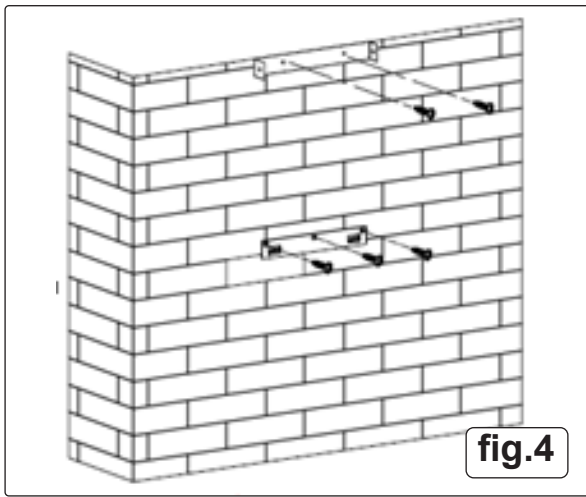

fig.4
- Drill 5 Ø8mm holes on a suitable place to accommodate the hook and inside chimney bracket once the installation height is fixed, keep it in line. The fixed position of the inside chimney bracket is the place of chimney. See fig.4.
- Screw and tighten the hook onto the wall with the 3pcs screws (4mm x 40 mm) and wall plugs provided. Then use 2 pcs ST4\*40mm screws to fix the inside chimney bracket. See fig.4.